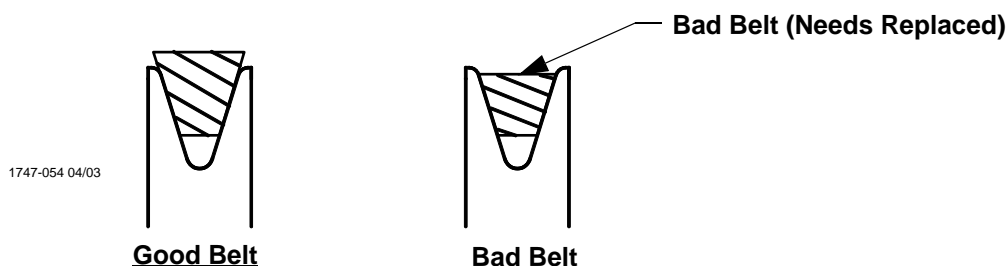

Figure 25. Belt Condition
- Periodically check the V-Belt and replace if necessary. A worn Belt will cause a substantial drop in Fan performance or it can break and cause Fan failure. If a Belt rides below the Sheave edge, replace the belt. (See Figure 25 below)